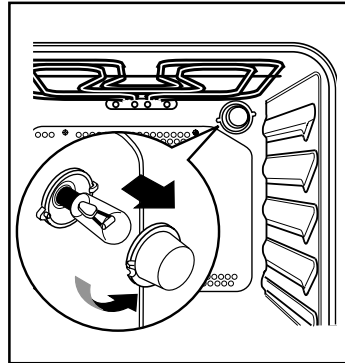

Fig. 4
2. Push in and turn the glass cover anticlockwise (Fig. 4).